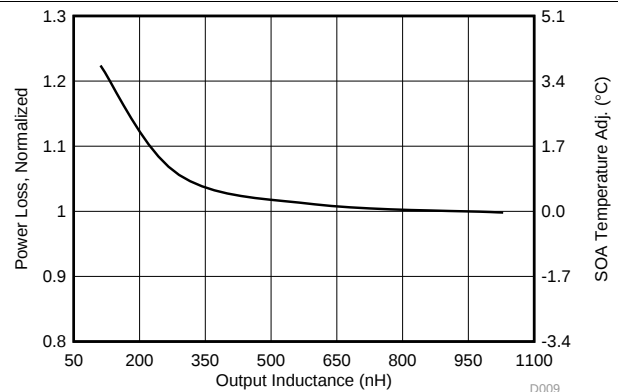

Figure 8. Normalized Power Loss vs Output Inductance
- Normalized power loss for output inductor  $\approx 1.01$  (Figure 8)